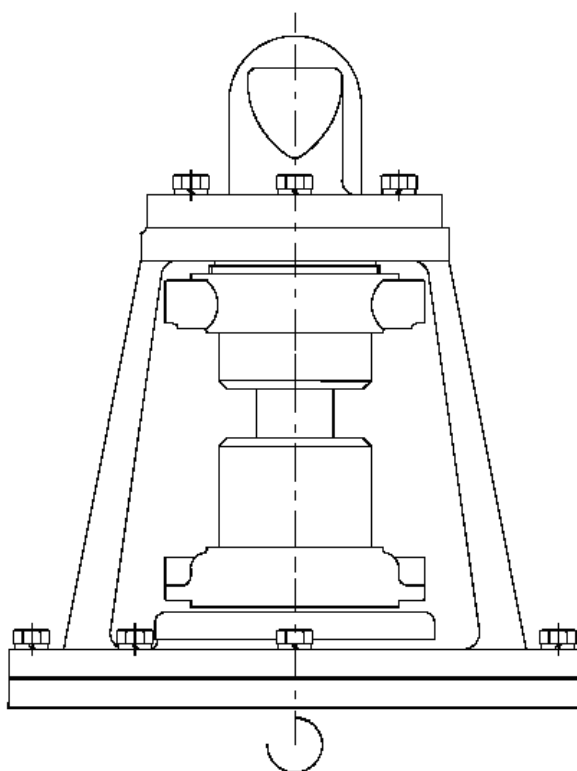

Fig.6 Inspection and Adjustment for Assembly
3.3 Inspect mud pipe as per Fig. 6. Radial run out should not be over 0.30mm.